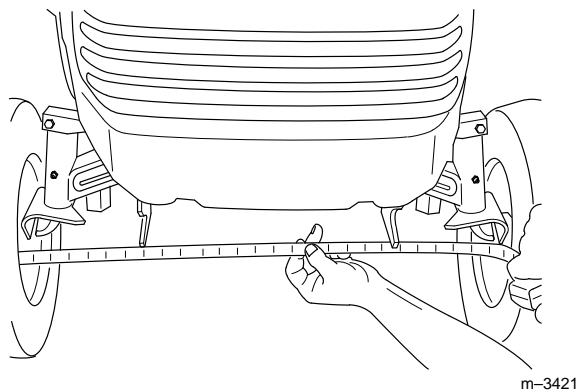

Figure 42
Maintaining correct front wheel toe-in is important for safety, Smart Turn™ Steering operation, and ease of use. If uneven tire wear, lawn scuffing or hard steering develop, adjustment may be required. Check the toe-in after every 100 operating hours or once a year, whichever occurs first (Fig. 42).
4. Measure the distance between both of the front tires at spindle level (at the front and rear of the wheels) (Fig. 42).